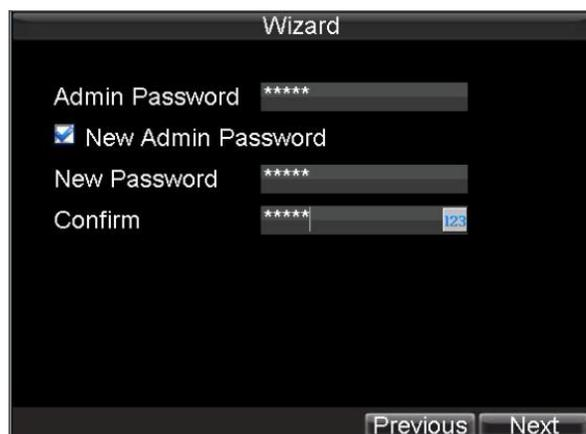

Figure 3. User Permission
1. Click the **Next** button on the Wizard window. This will take you to the **User Permission** window, shown in Figure 3.